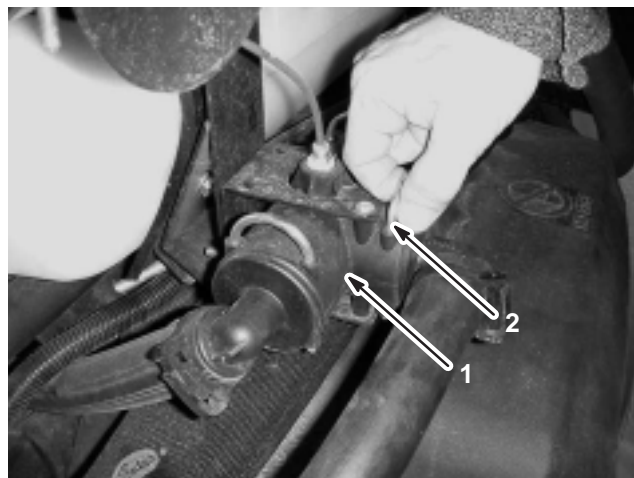

Figure 5
1. Remove the hose retainer to disconnect the boom hose from the supply tee (Fig. 5).
Note: The small tube and fitting on top of the supply tee shown in Figures 5 and 6 is not present on Workman 200 Spray Systems.